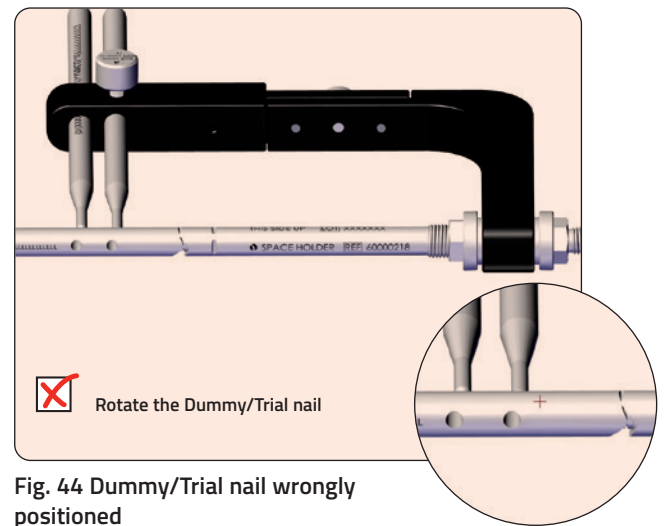

Fig. 44 Dummy/Trial nail wrongly positioned
3. The dummy/trial nail is wrongly placed. (Fig. 44)